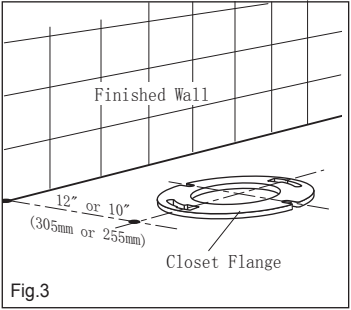

Fig.3
1. It is important for the installation of Somerton Smart Two Piece Washdown toilet that the closet flange be accurately set out from the finished wall as detailed in Fig.3.